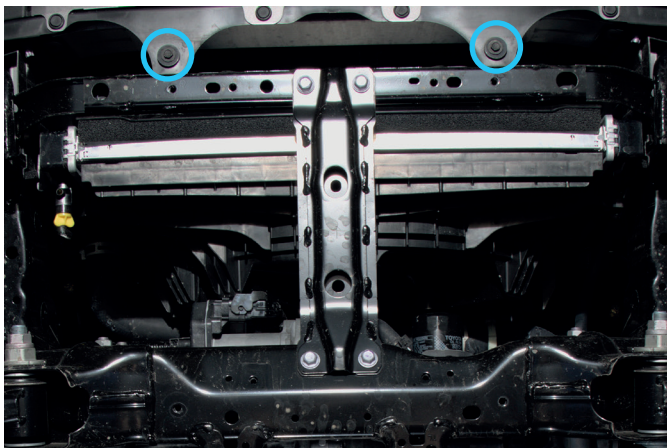

Fig. 3
3. Unscrew factory bolts as shown in fig.3.